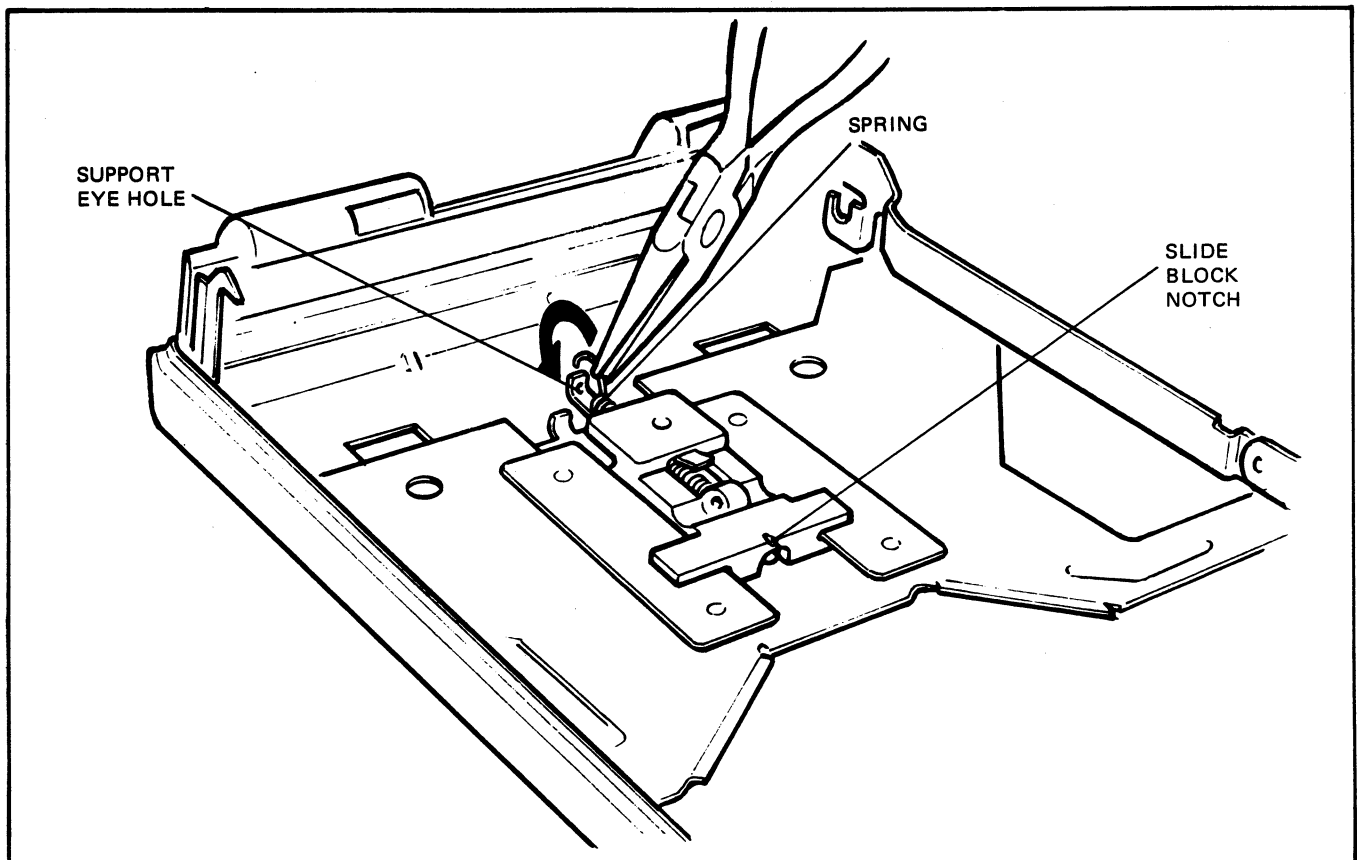

FIG. 5.3 INSTALLING THE SLIDE BLOCK SPRING
1. Hook one end of the spring in the notch on the slide block (Figure 5-3). Position the slide block and spring in the frame roller support and hook the spring in the support eyehole.